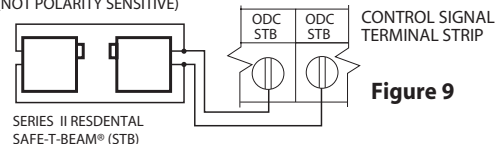

Figure 9
- 1) Monitored SERIES II (STB) photocells (P/N OPAKPE.S) and Residential Safe-T-Beam® Monitored Photocells from Overhead Door® (P/N 37221R & 38176R.S). **Fig. 9.** Wiring to these photocells can be connected to either terminal (they are not polarity sensitive.) (**Troubleshooting in Section 8**)